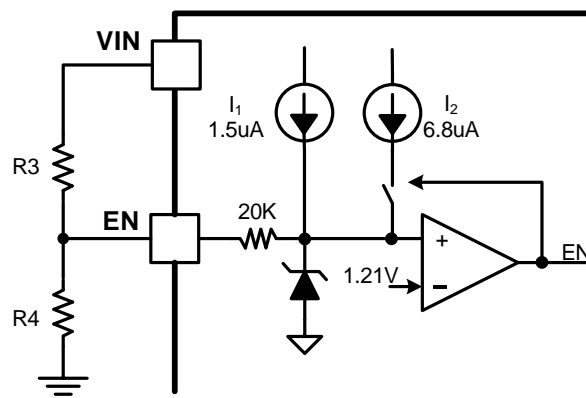

Figure 3. Adjustable VIN UVLO
An internal 1.5uA pull up current source connected from internal LDO power rail to EN pin guarantees that floating EN pin automatically enables the device. For the application requiring higher VIN UVLO voltage than the default setup, there is a 6.8uA hysteresis pull up current source on EN pin which configures the VIN UVLO voltage with an off-chip resistor divider R3 and R4, shown in Figure 3. The resistor divider R3 and R4 are calculated by equation (3) and (4).